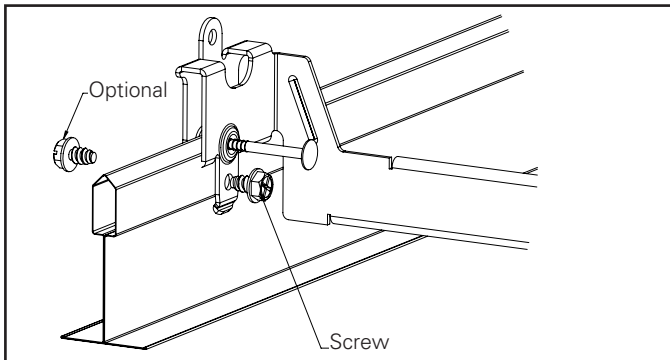

Figure 7.
3. Snap fixture on T-bars. Secure with screw (not included) as shown (Figure 7).